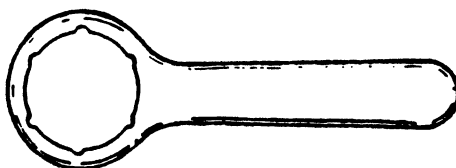

Fig 1-7. M25 Fuze Setter.
b. M25 fuze setter (fig 1-7); the M25 fuze setter is used to set the time on the fuze of the illumination round.